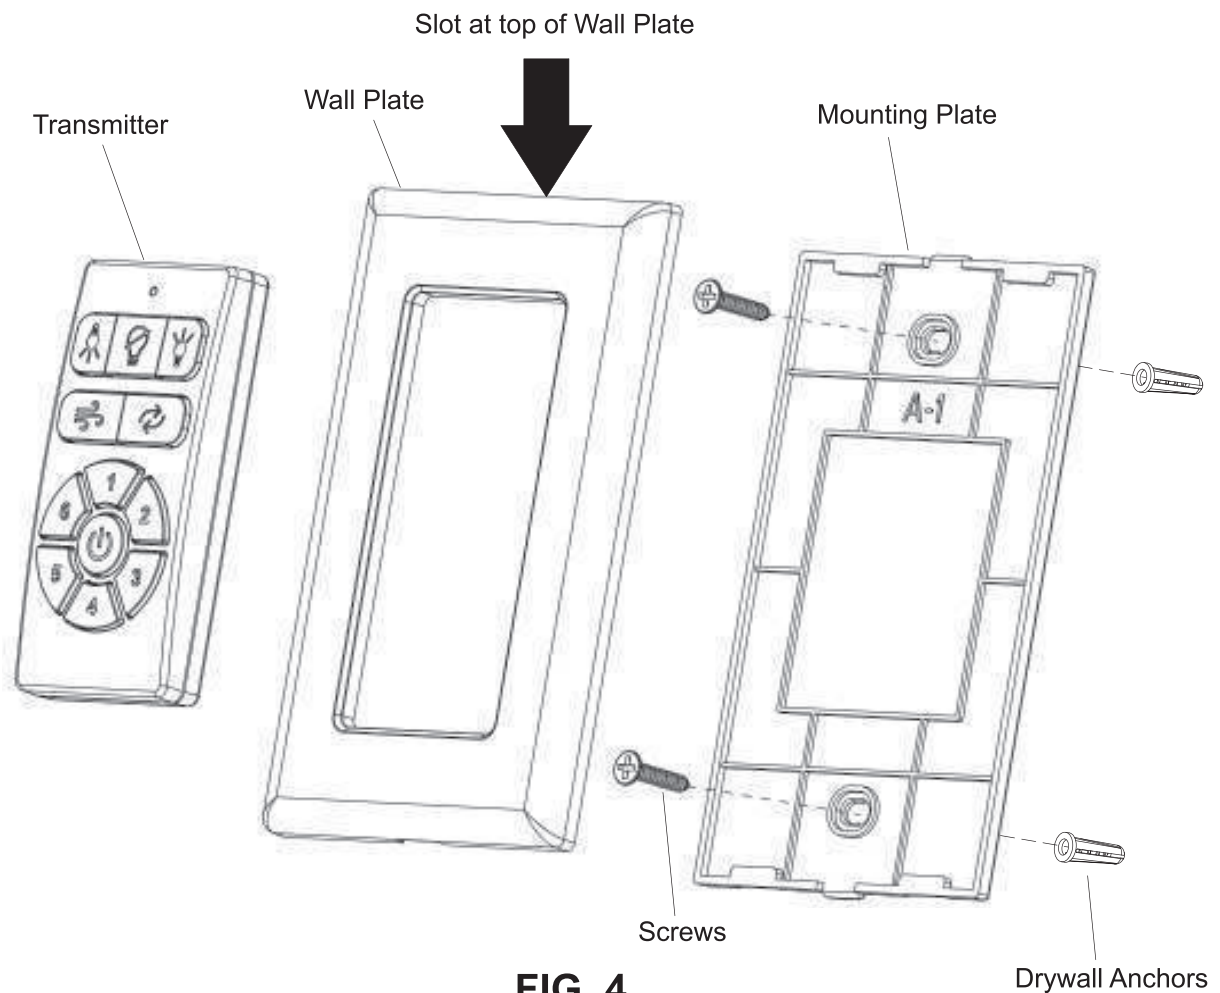

FIG. 4
Step 1. Remove the wall plate from the mounting plate (insert a small, flathead screwdriver into the slot at the top of the wall plate, and carefully pry the wall plate off of the mounting plate). **(Fig. 4)**
Step 6. Snap the wall plate in place onto the mounting plate. **(Fig. 4)**
Step 7. Insert the transmitter into the center of the wall plate, and it will magnetically attach to the mounting plate. **(Fig. 4)**